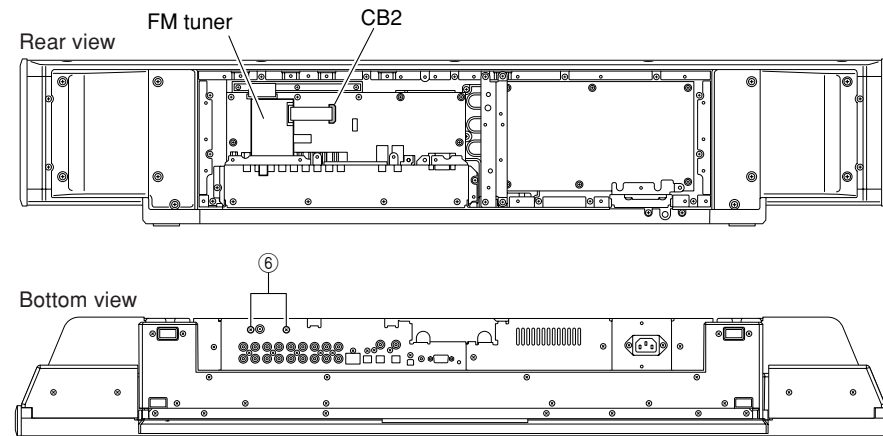

Fig. 3
- Remove 2 screws (⑥). (Fig. 3)
- Remove CB2. (Fig. 3)
- Remove the FM tuner. (Fig. 3)